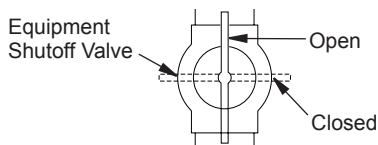

Figure 34 - Equipment Shutoff Valve
1. Close equipment shutoff valve (see Figure 34).
1. Open equipment shutoff valve (see Figure 34, page 23).